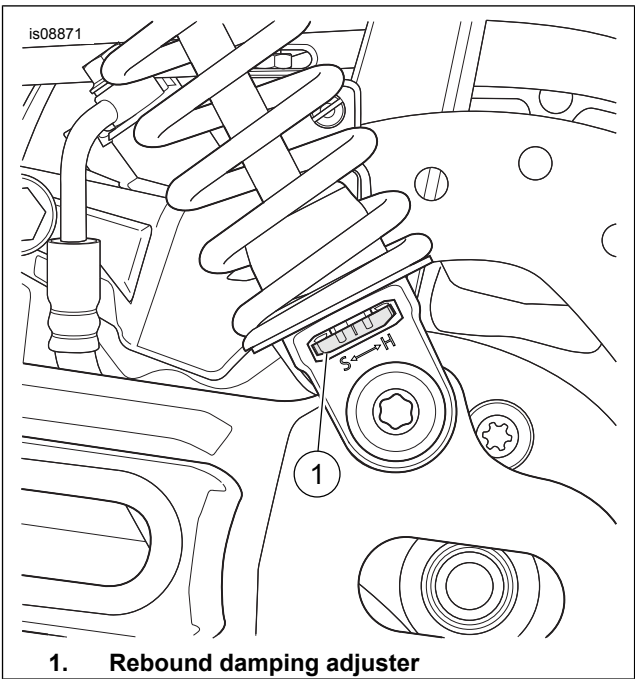

Figure 6. Shock Absorber Rebound Damping Adjusters
1. See Figure 6. Turn the rebound adjuster in the direction of the embossed H (hard) until it stops. This is the maximum rebound damping setting.